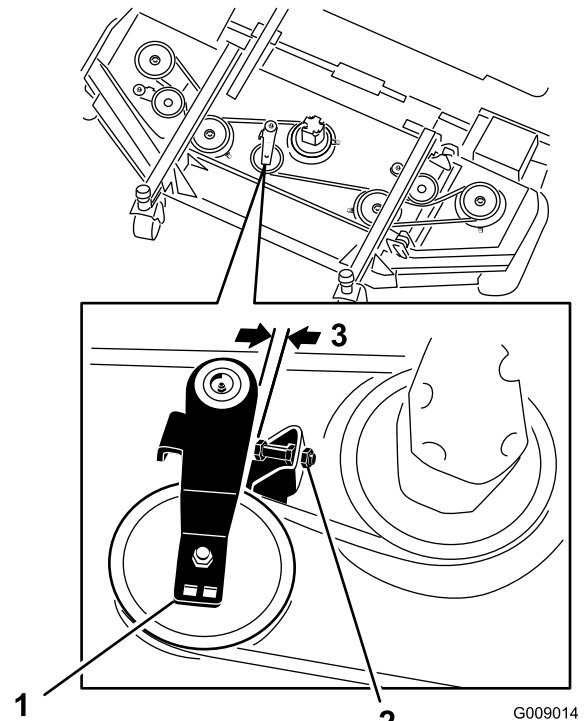

Figure 81
2. On the front deck, loosen the jam nuts on the idler pulley stop screw and thread the stop screw in to the bracket (Figure 81).
3. Using a ratchet wrench or similar tool, move the idler pulley (Figure 81) away from the drive belt to release the belt tension and allow the belt to be slipped off the deck pulleys.